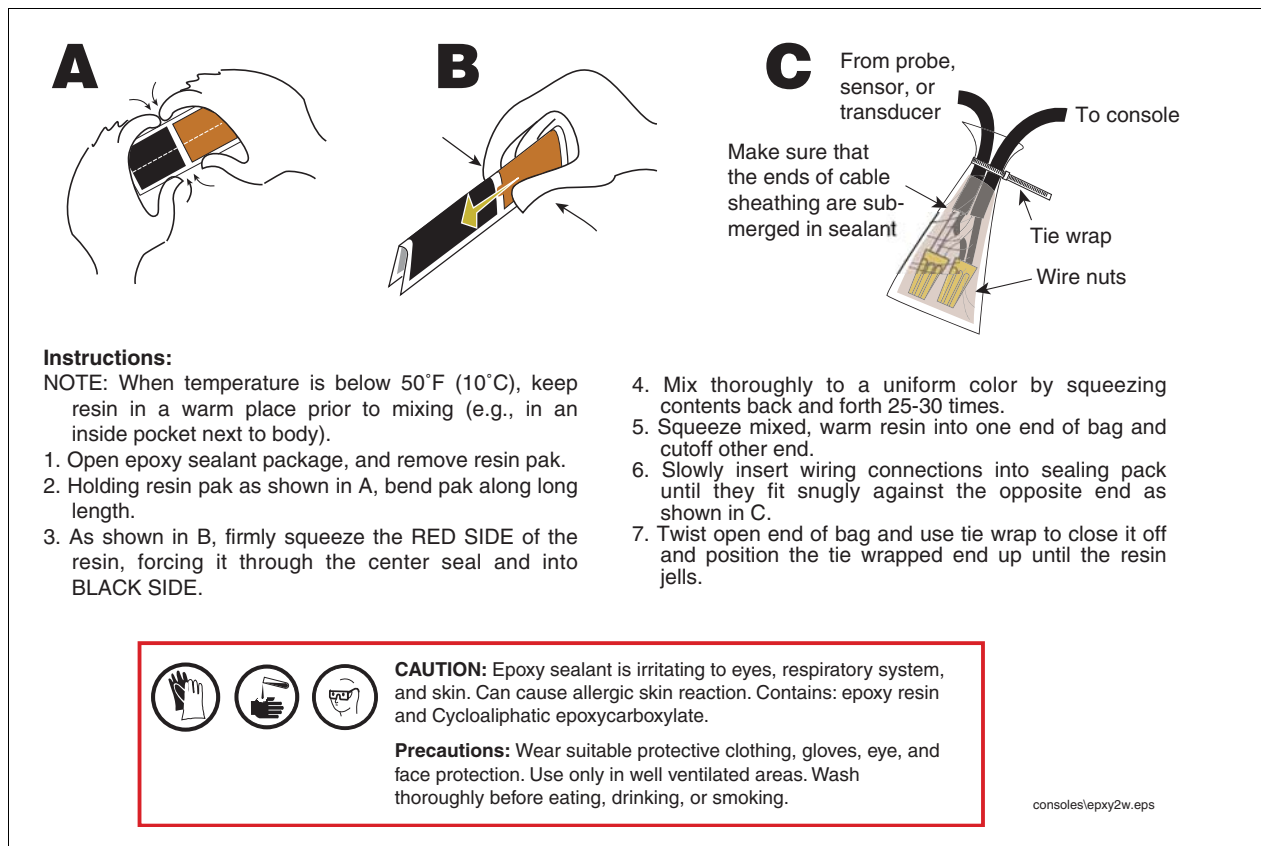

Figure 6. Epoxy Sealing Sensor Field Connections
11. Seal wire nuts with epoxy sealant following the instructions in Figure 6.